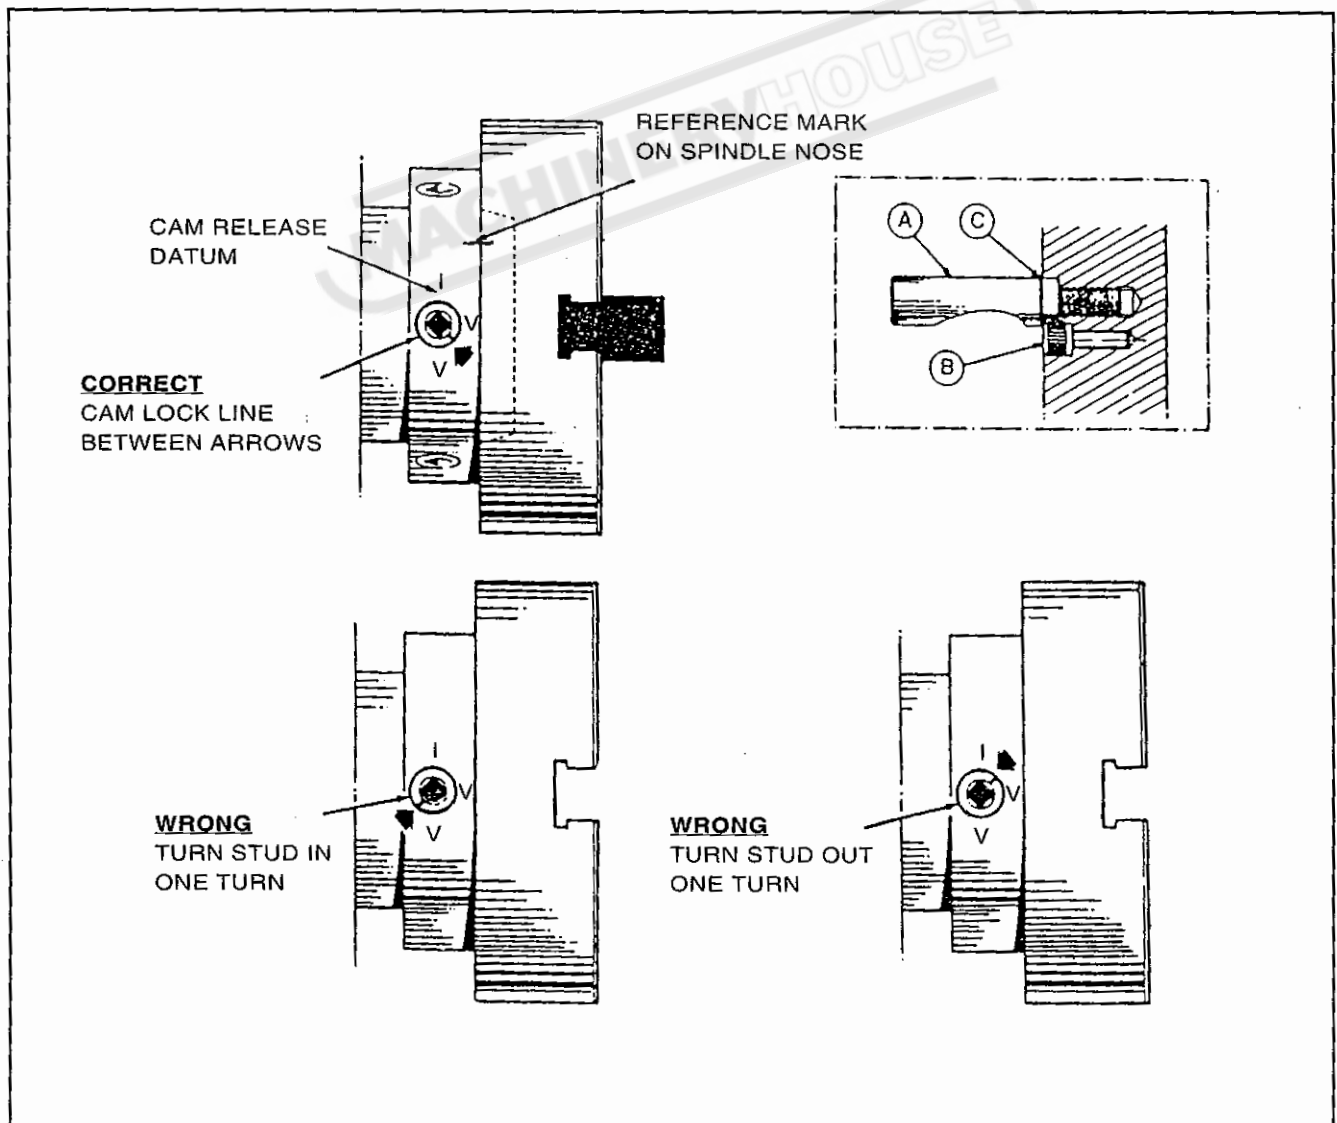

Fig.7
When fitting chucks or faceplates, first ensure that the spindle and chuck tapers are scrupulously clean and that all cams lock in the correct positions; see Fig.7. It may be necessary when mounting a new chuck to re-set the camlock studs (A). To do this, remove the cap-head locking screws (B) and set each stud so that the scribed ring (C) is flush with the rear face of the chuck-with the slot lining up with the locking screw hole (see inset, Fig.7.)